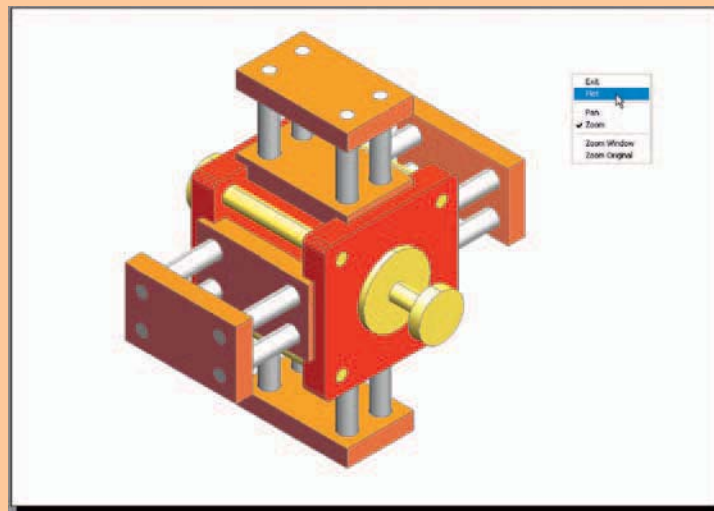

Fig. 15.45 First example – **Print Preview** – printing a single copy
First example – printing (Fig. 15.45)
3. *Click* the **Preview** button of the dialog and if the preview is OK (Fig. 15.45), *right-click* and in the right-click menu which appears, *click* **Plot**. The drawing plots, producing the necessary “hardcopy”.